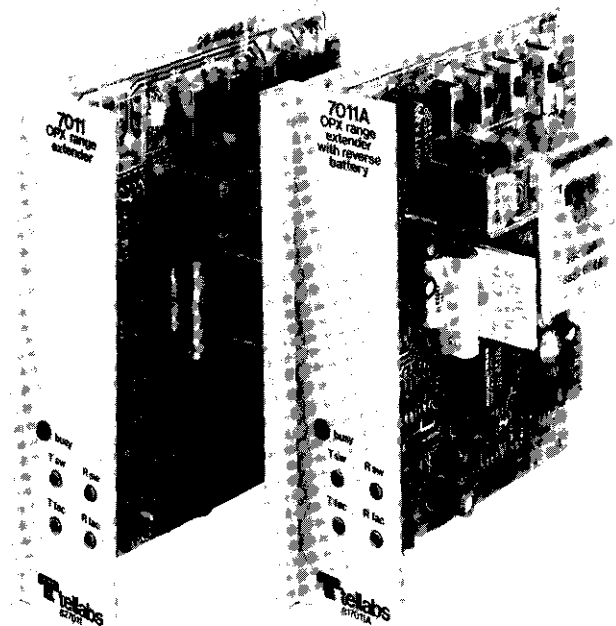

figure 1. 7011 and 7011A OPX Range Extenders
1.01 The 7011 and 7011A OPX Range Extender modules (figure 1) extend key telephone service (signaling and supervision) to stations located beyond the normal range of an electronic key telephone system or PBX. Although the 7011 and 7011A are similar to conventional dial long line (DLL) units, neither module contains a dial-pulse relay. Thus, these modules can only be used with systems that use dual-tone multifrequency (DTMF) dialing exclusively. Both modules incorporate features that allow them to be used in conjunction with the Western Electric Horizon® electronic communications system. These features include option ringing detection on a cable pair other than tip and ring and, on the 7011A, reverse-battery detection.